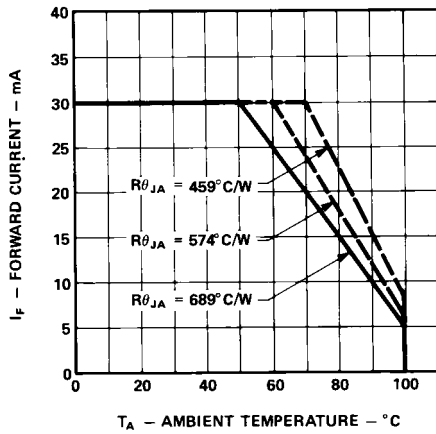

Figure 5. Maximum Forward DC Current vs. Ambient Temperature. Derating Based on T_J MAX = 110°C.
3. Derate linearly as shown in Figure 5.